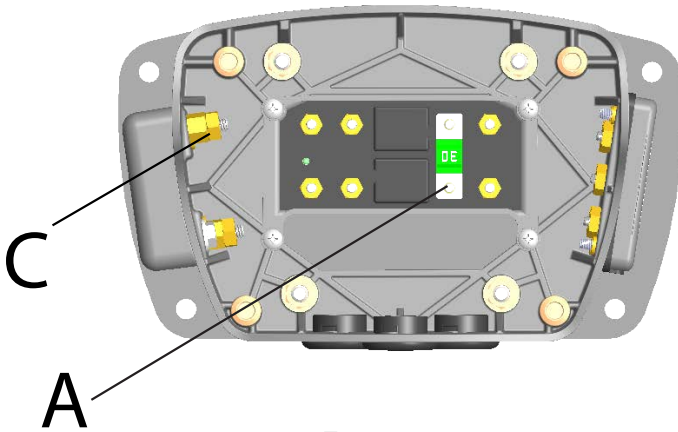

Figure 3
Step 1: Inside the nosebox, connect the severe service positive (point C) to the Power terminal (point A) (see Figure 3) using a 10 gauge wire.